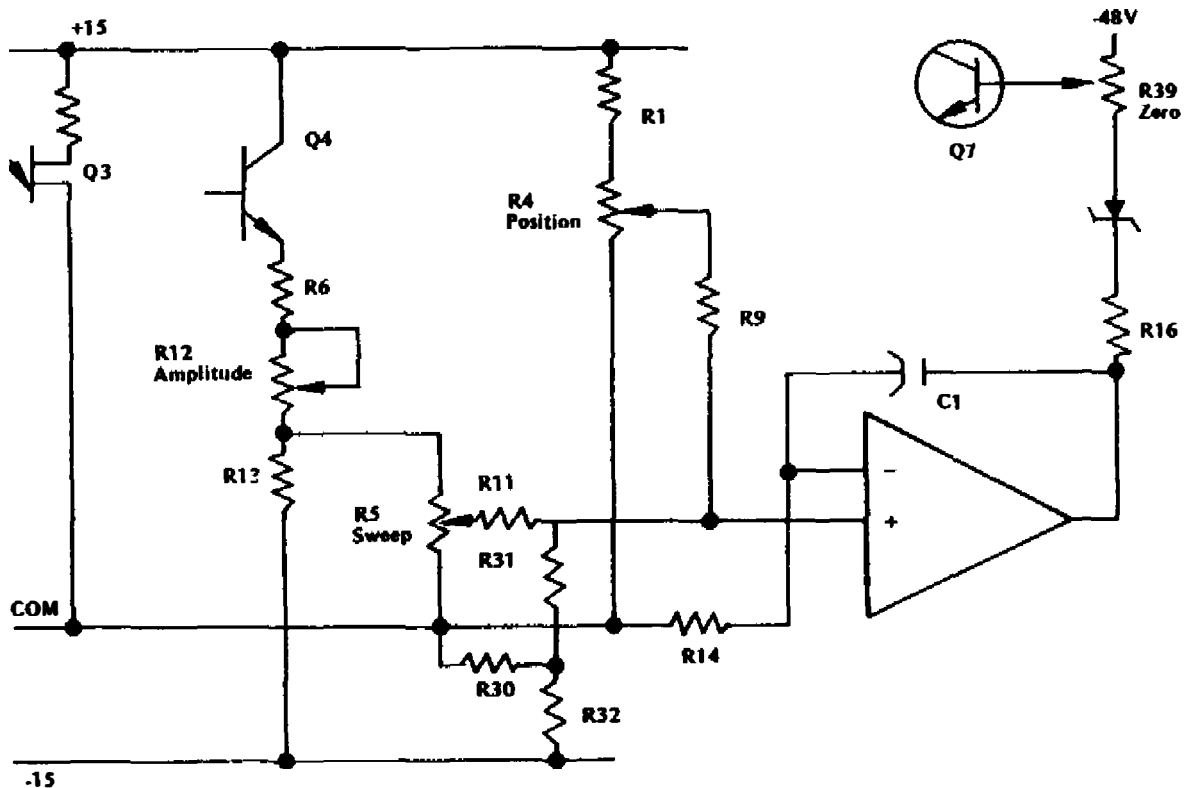

Figure 5-13. CV-8 A and B sweep generator schematic (drawing 409-4533)
5.5 SWEEP CIRCUITS (Optional) Figures 5-13, 5-14, and 5-15)